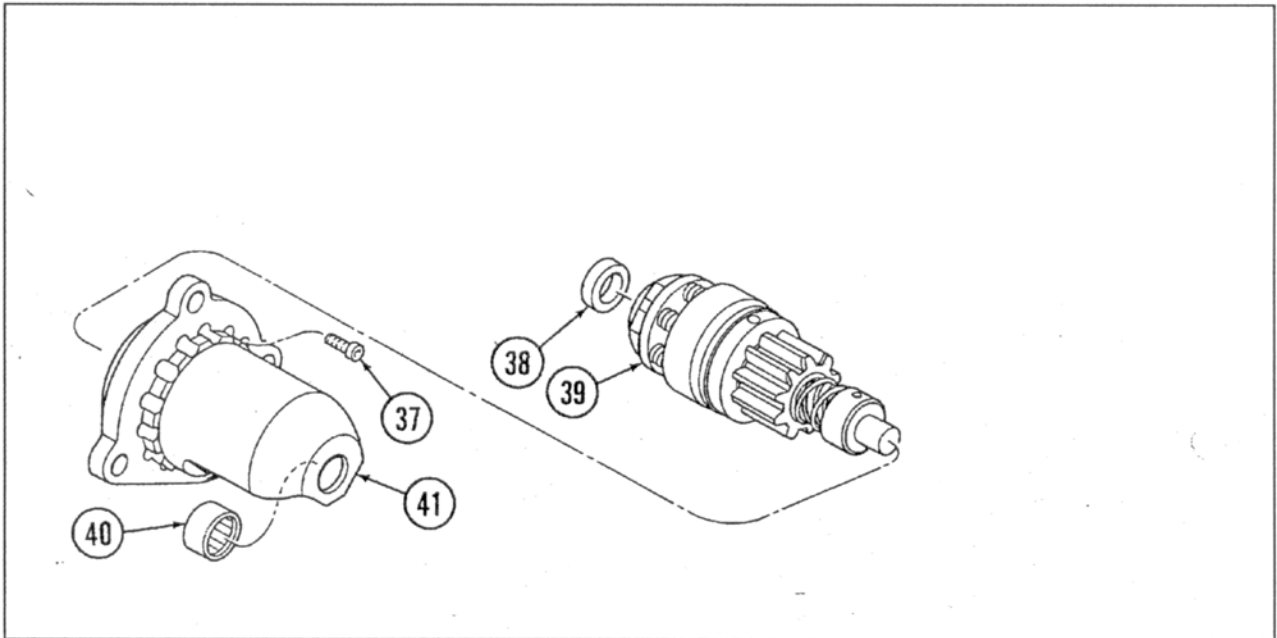

Figure 5. Bendix Drive Assembly
The Bendix drive assembly, refer to figure 5, consist of an inertial engagement drive or "bendix" (39) and drive housing (41). Twelve screws (37) secure the drive housing to the gearbox housing.